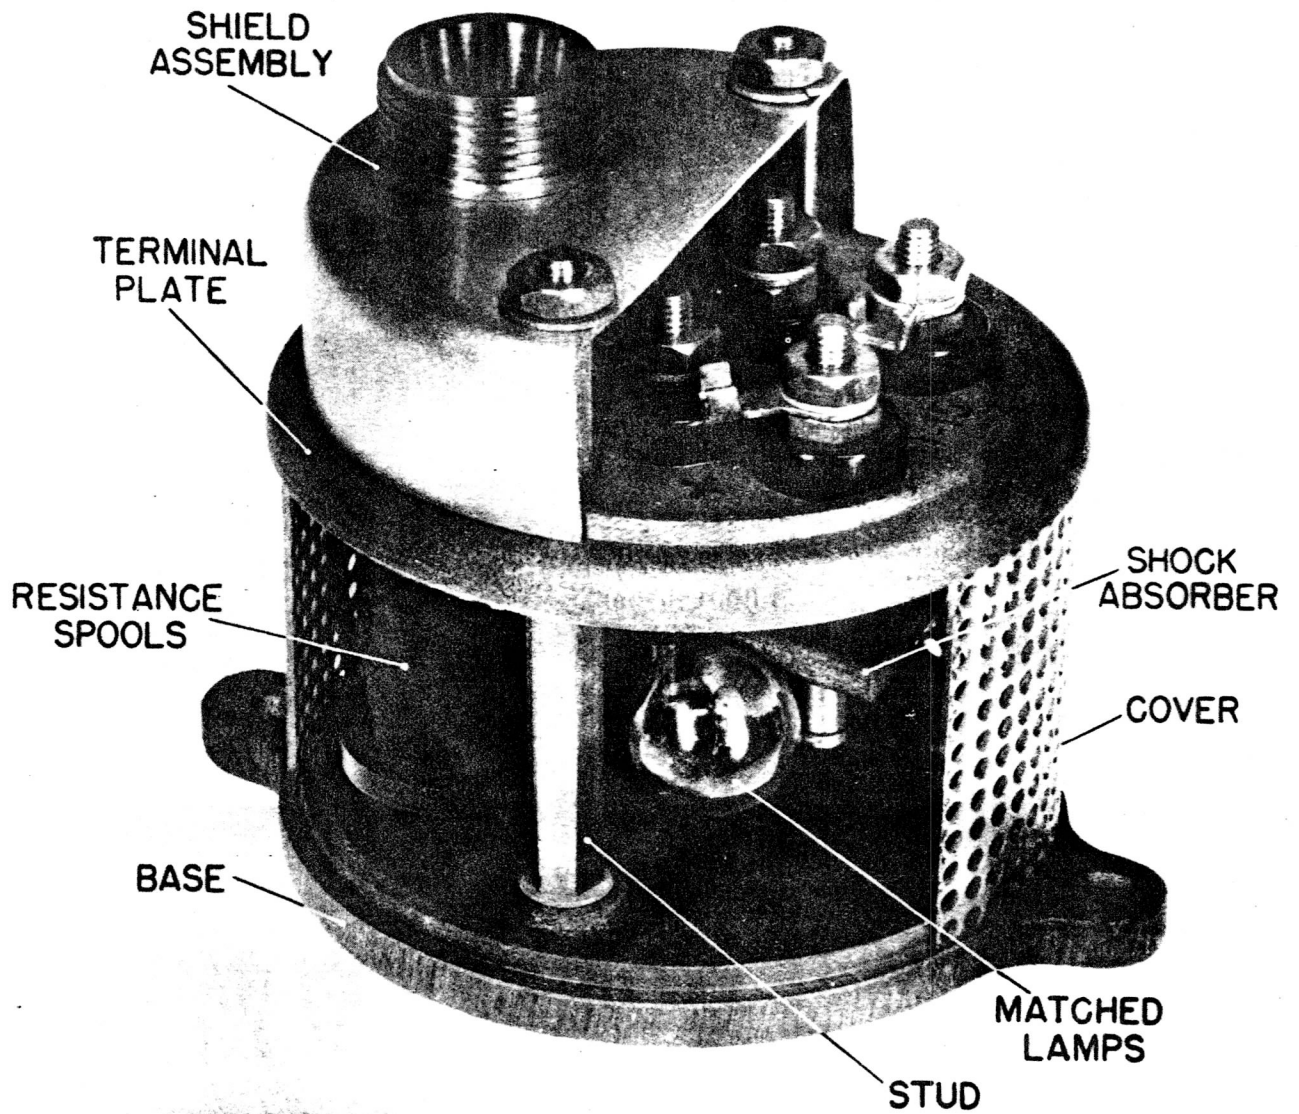

Figure 43—Cutaway View of Voltage Compensator
b. VOLTAGE COMPENSATOR. (See Figure 43.)—Consists essentially of two resistance spools and two Tungsten filament lamps mounted in a perforated light weight metal case. The spools are mounted directly to the base while the lamps are suspended on shock absorbing metal strips, with a sponge rubber pad for damping small oscillations. These strips are designed to provide a simple rugged lamp mounting with a high degree of shock absorption as well as low thermal conduction to the case. The lamps have standard automobile type six candle power, 12-16 volt bulbs mounted on miniature type bases. They are suitably aged and paired to provide for constancy of adjustments and easy replacements. The Compensator is adjusted to supply an output of 4.1 plus or minus 0.05 volts into a 100 ohm load when the input is between 11 and 15 volts.